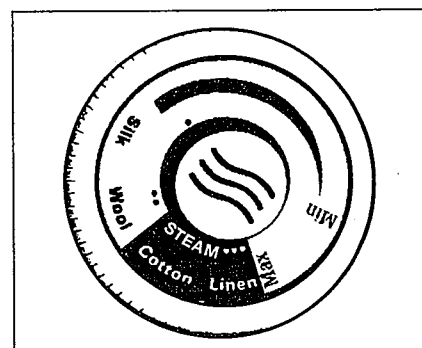

Figure 6
5. Turn the Temperature Control Dial to the desired setting (Figure 6). The temperature increases as the Dial is turned clockwise. (See "Using As A Steam Iron" when using the temperatures within the "STEAM" setting.)